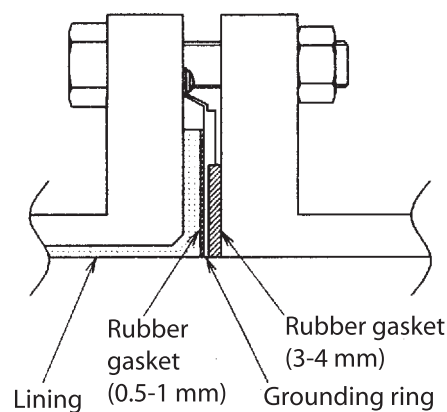

Figure 34. Installation on PVC Pipe with non-316 ss Grounding Ring (with Rubber Gaskets)
- Use this method to install the flowtube using a low fastening torque and rubber gaskets. First, remove the grounding ring from the flowtube, then insert a rubber gasket with a thickness of 0.5 to 1.0 mm. Then reinsert the grounding ring on top of the rubber gasket. Next, remove the PTFE gasket and insert a rubber gasket 3.0 to 4.0 mm thick to replace it. Under these conditions, install the flowtube on the pipe as shown in Figure 34. Tighten the bolts to the torque required to achieve a fluid seal for the rubber gasket. In this case, the two kinds of rubber gaskets that are used should be made of the same material. For the dimensions of the rubber gaskets, refer to Tables 5 and 6.